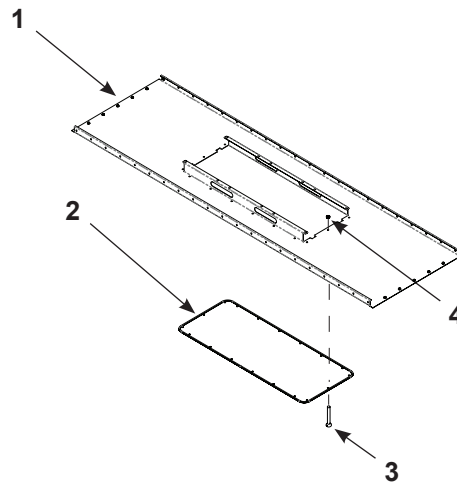

Figure 14 Installing Window Assembly
1. See Figure 14. Locate the roof window assembly shipped with the canopy. Remove the back of the double-sided tape on the lens (2), and align the lens to the mounting holes on the underside of the roof panel (1). Apply gentle pressure to the lens to temporarily secure to the roof panel.
2. Install the screws (3) and nuts (4) provided in the roof window assembly to fully secure the lens (2) to the roof panel (1).